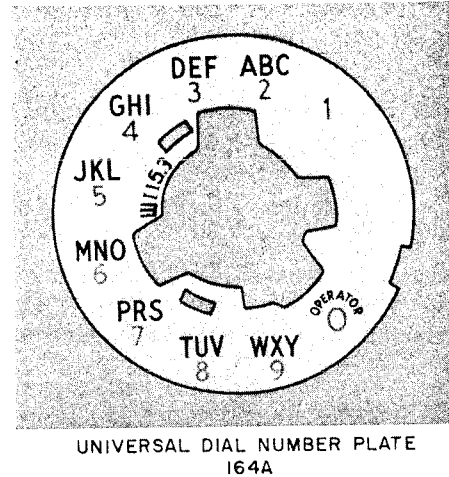

Fig. 3 — 164A Number Plate
2.02 The 164A number plate (Fig. 3) is intended for general station use with 5- and 6-type dials. (See Table B for other number plates available for use with 5- or 6-type dials.)